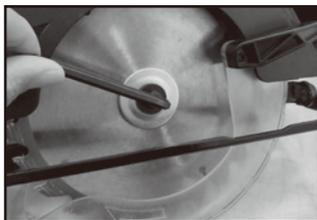

Fig. 2
2. Remove the blade screw by turning it clockwise with the hex key, while keeping the spindle lock button depressed Fig.2.